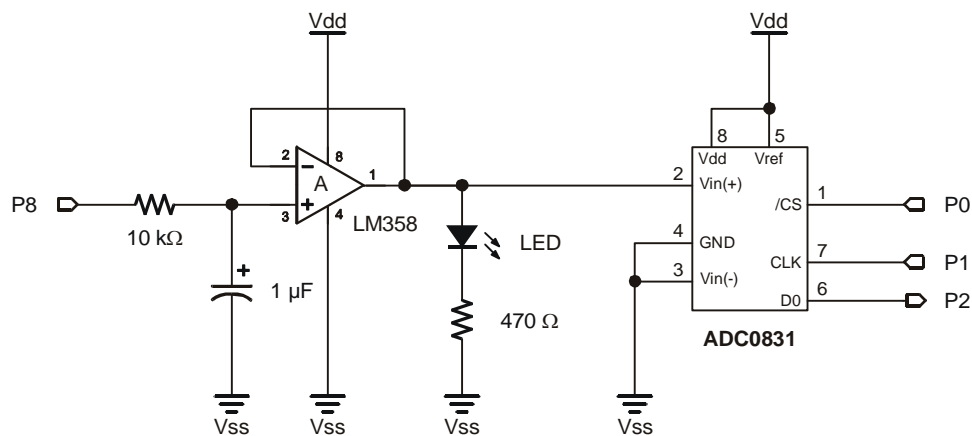

Figure 7-8: PWM DAC with Op-amp Buffer and a Load
Place a voltage follower in between the D/A output and an LED circuit input as shown in Figure 7-8, then run Program Listing 7.1 again.
4. Write a program that tells you the measured resistance value of the photoresistor from Figure 7-8. Hint: Apply the voltage divider equation and use the existing DVM program. You will need to modify the `Calc_Volts` and `Display` subroutines.